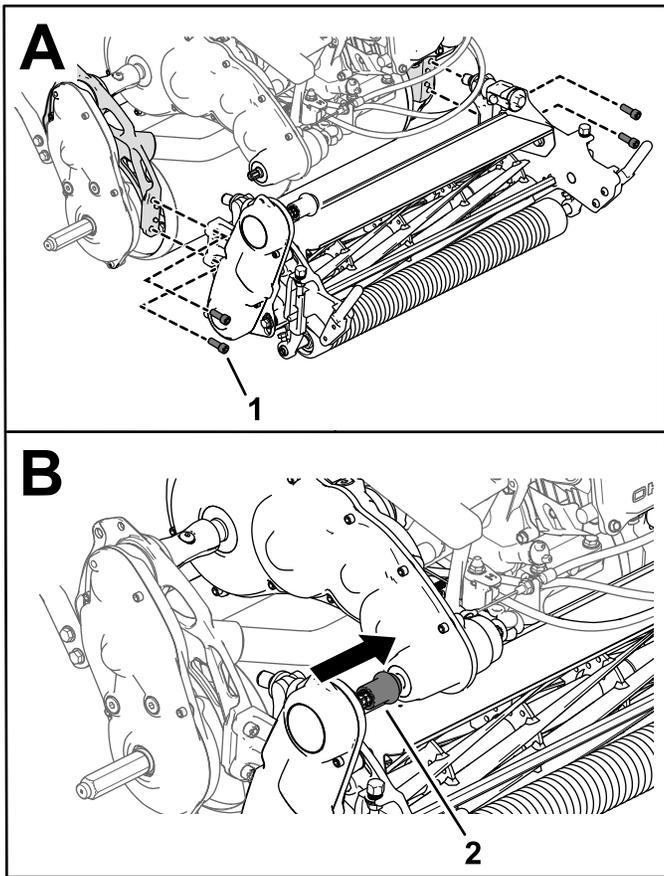

Figure 47
3. Use 4 socket-head screws to secure the cutting unit to the frame (Figure 47).
4. Slide the cutting-unit-drive coupler onto the transmission driveshaft (Figure 47).